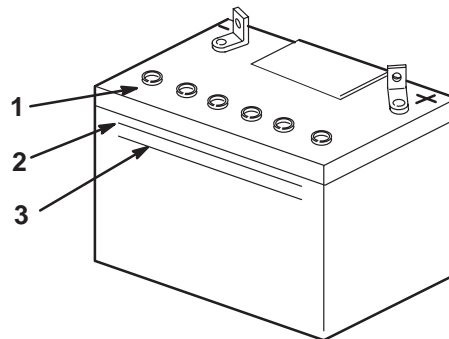

Figure 69
2. Look at the side of the battery. The electrolyte must be up to the **upper** line (Fig. 69). Do not allow the electrolyte to get below the **lower** line (Fig. 69).
3. Remove the vent caps from the battery (Fig. 69).
4. Slowly pour distilled water into each battery cell until the level is up to the **upper** line (Fig. 69) on the battery case.
5. Wait five to ten minutes after filling the battery cells. Add distilled water, if necessary, until the electrolyte level is up to the **upper** line (Fig. 69) on the battery case.